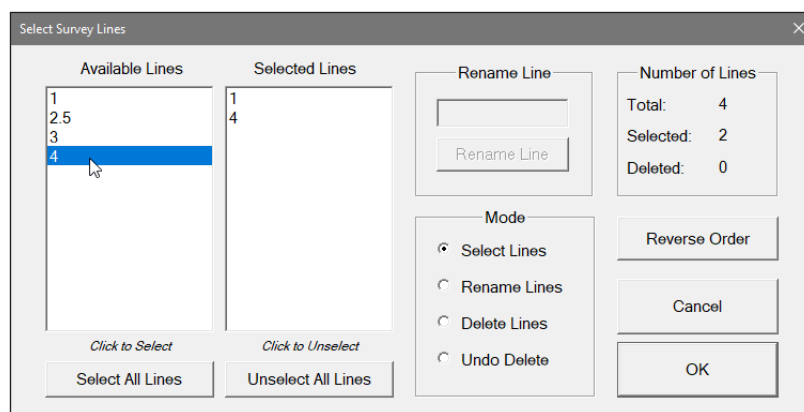

Figure 3.14 Select Survey Lines dialog
- In the Select Survey Lines dialog (Figure 3.14):
- Click a line in the Available Lines list. A “D” appears next to its name (Figure 3.14) and will be omitted from display and saved files.